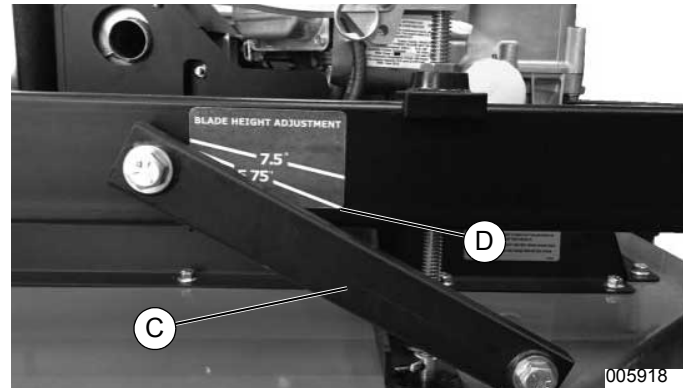

Figure 3-8. Blade Height Adjustment Label
4. See Figure 3-8. Rotate both height adjusters in the same direction, switching sides every ten full turns until the top of sway brace (C) aligns with the desired cutting height lines on height adjust label (D).